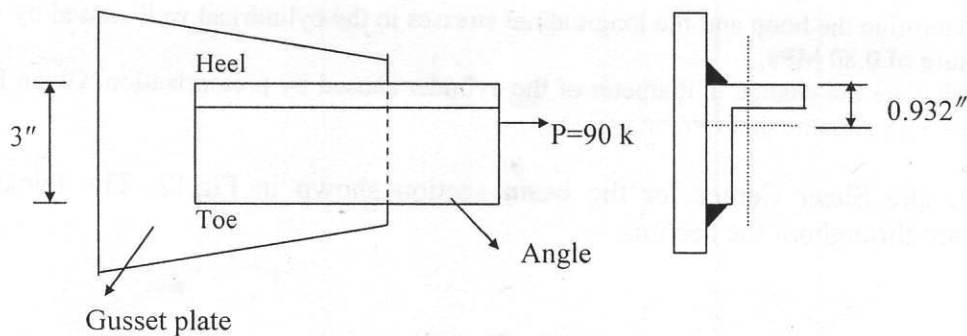

Fig.8
8. A L-3"×3"×0.5" angle (Fig.8), which is to be welded to a gusset plate carries a load of 90 kips to a gusset plate along its centroidal axis. (10)